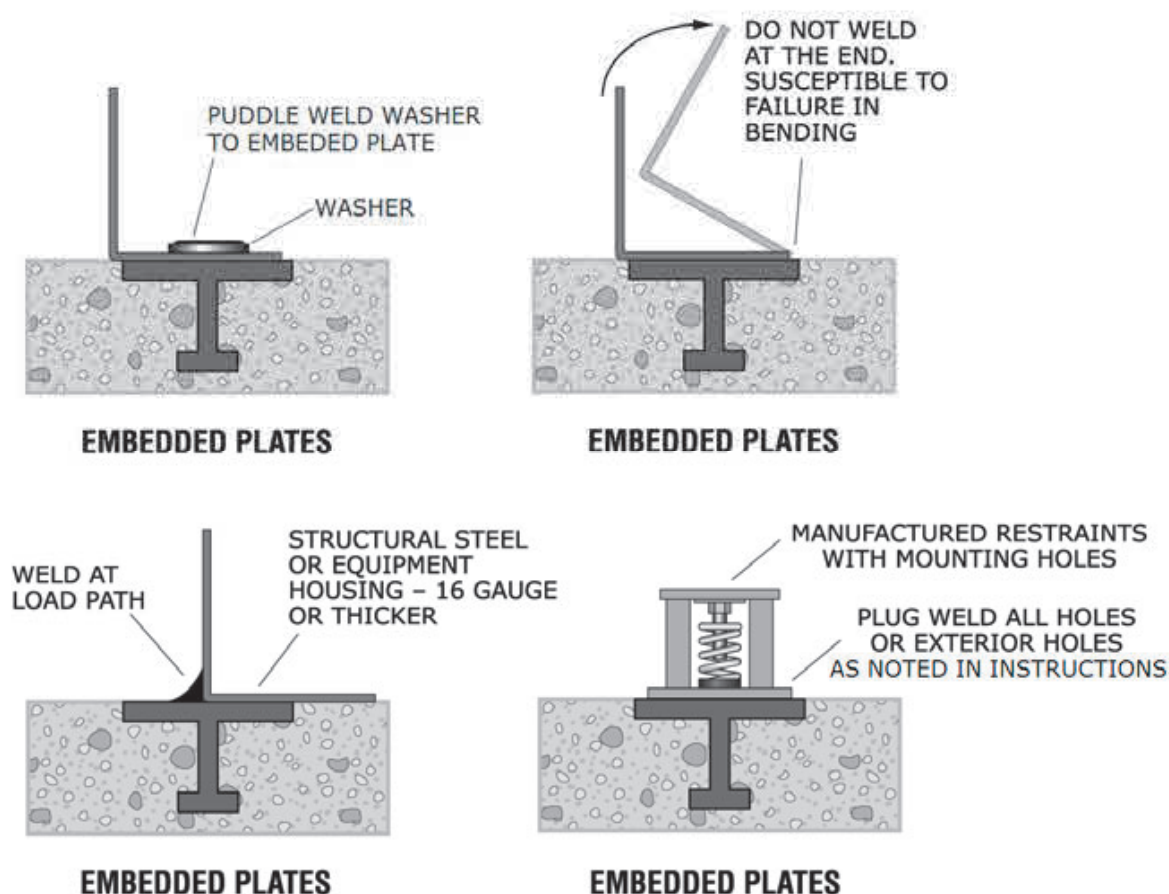

Figure 149: Welding to embedded plates.
**Attaching equipment to embedded plates:** Plates are embedded in the concrete during the floor or wall pour. Plates are firmly held in place while the concrete is poured to maintain proper alignment and position. The size and location of the plate can be determined from construction drawings. See Figure 149 (below) for weld locations.